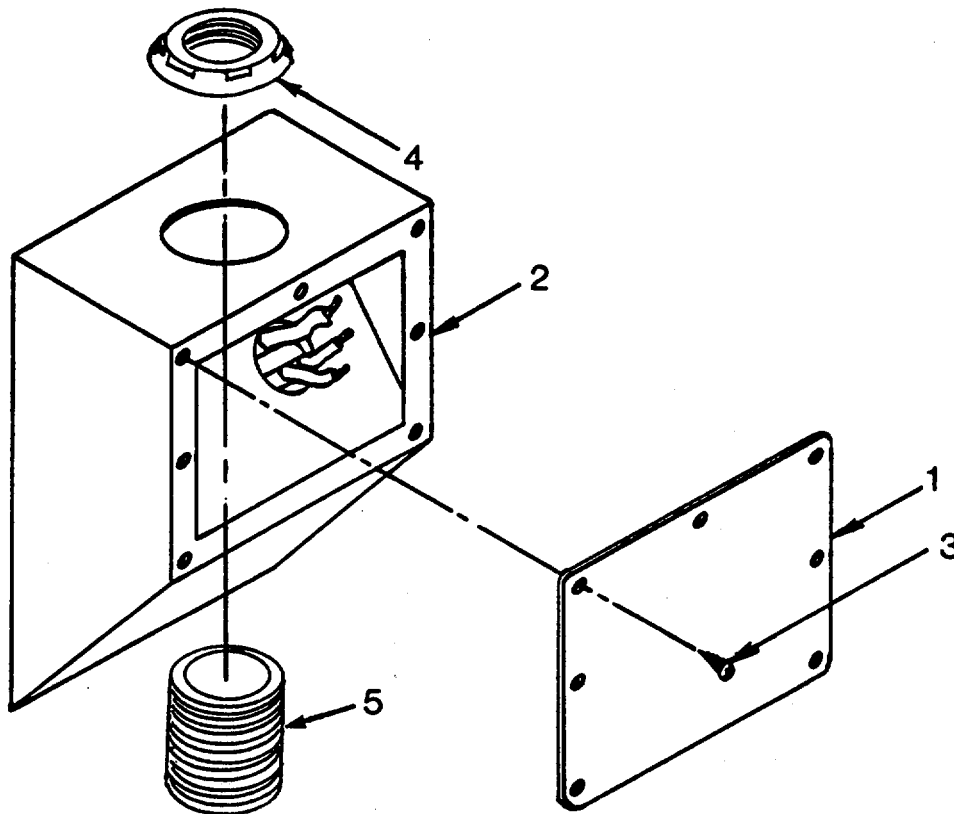

Figure 5-2. Main Power Cable Receptacle Assembly (Inside Shelter)
- a. Inspect. (See Figure 5-2.)
- (1) Inspect main power receptacle of outside rear wall of shelter for general condition and security of mounting.
- (2) Inspect electrical connector pins of outside rear wall of shelter for damage and corrosion.
- (3) Inspect knurled, threaded female portion of outside rear wall of shelter for thread damage and corrosion.
- (4) Inspect protective cap and chain of outside rear wall of shelter for damage and security of chain attachment.
- (5) Inspect electrical shield and mounting screws of outside rear wall of shelter for damage, security, and correct sealing.
(1) Remove receptacle access plate (1, Figure 5-2) from receptacle box (2) (inside shelter) by removing attaching screws (3).
(3) Tag and unsolder four main electrical wires of main power service assembly from terminals. Remove conduit nut (4, Figure 5-2), conduit bushing (5), and wiring clamps as necessary.
- (7) Remove receptacle box (9) from shelter wall.
- (8) Remove data plate (10) (power requirements) from receptacle box by drilling out rivets (11).
- (9) Position data plate (10) (power requirements) on receptacle box, match drill holes, and secure with rivets (11).
- (10) Position receptacle box (9) in shelter wall opening and secure with rivets (8).
- (11) Install main power receptacle (5), cap (7), and gasket (6).
- (12) Install screws (4), flat washers (3), lockwashers (2), and nuts (1).
- (13) Install conduit bushing (5, Figure 5-2) and conduit nut (4).
- (14) Solder four main electrical wires to terminals in the main service assembly. Install tie wraps as necessary.
- (15) Position receptacle access plate (1, Figure 5-2) on receptacle box (2) and secure with screws (3).
c. Repair. (See Figures 5-2 and 5-3.)